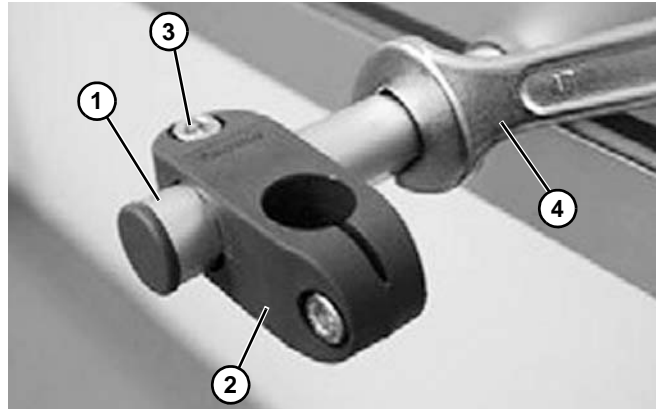

Figure 81
- Attach the guide rail (**Figure 81, item 1**) to the clamp (**Figure 81, item 2**). Tighten the screw (**Figure 81, item 3**). Remember, do not over tighten the screw.
- Use a wrench (**Figure 81, item 4**) to tighten the guide rail to the frame. Remember, do not over tighten the screw. Install remaining brackets.